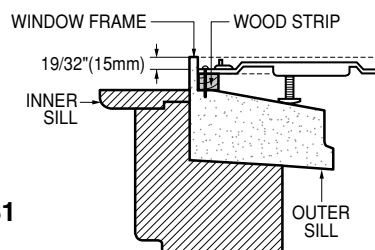

Figure 31
- Dimensions and geometry of windows are different depending on their manufacturing. Check your window and refer to FIG.31 to install the support bracket firmly.